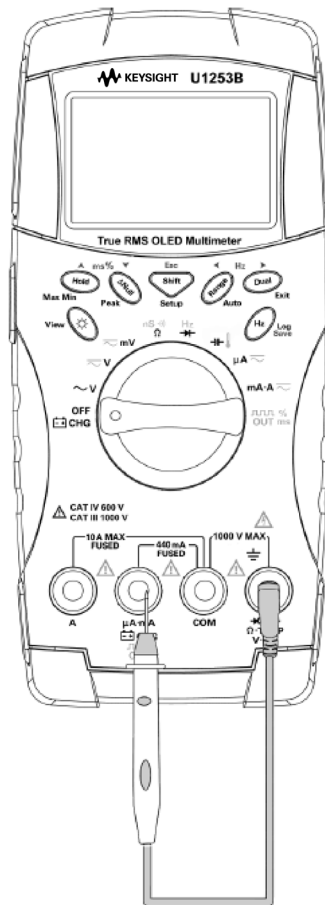

Figure 5-8 Fuse checking procedures
- 3** To test Fuse 1, place the tip of the test probe on the right half of input terminal **$\mu\text{A}\cdot\text{mA}$** .  **CHG**. Ensure that the probe tip touches the metal inside the input terminal, as shown in Figure 5-8.